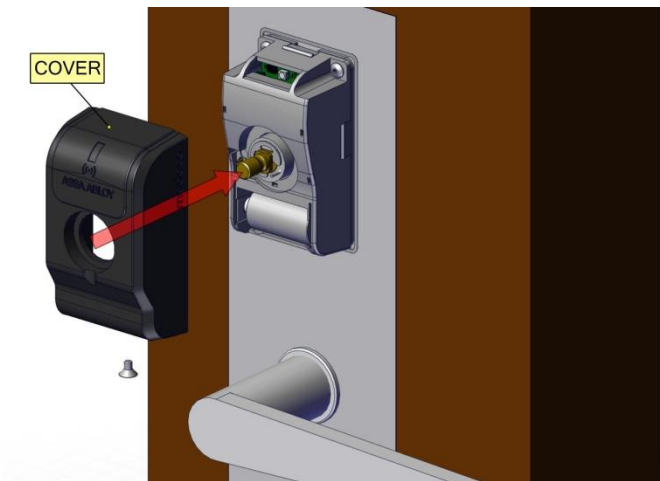
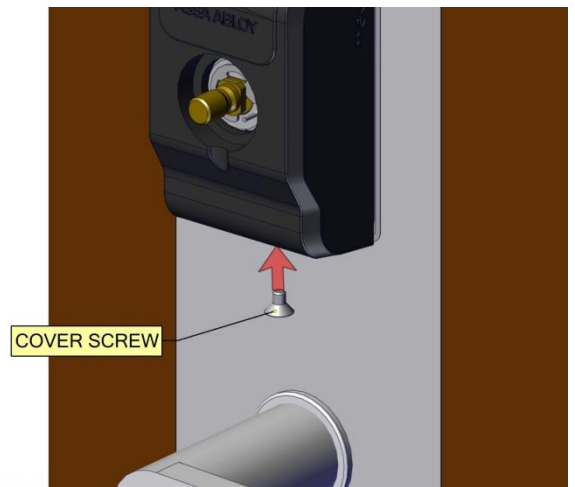

Fig. 16
Fig. 17
**Step 7: Install cover assembly (Fig. 16) and cover screw (Fig. 17).**